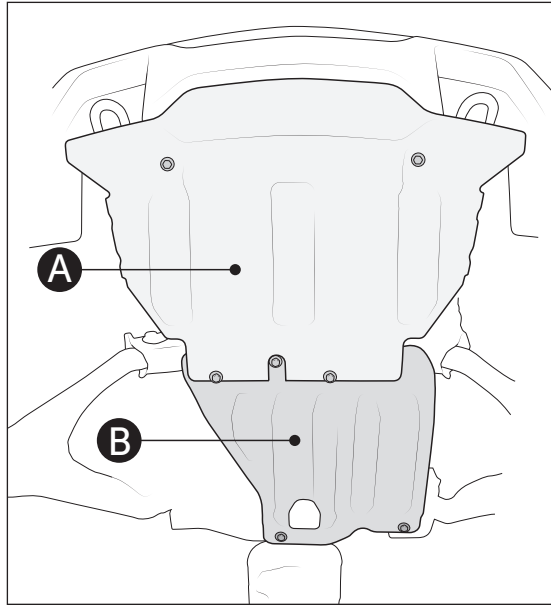

Figure 1
1. Remove Front Bumper Skid plate (fig. 1-A)
2. Remove existing ZR2 Engine Skid (fig. 1-B)